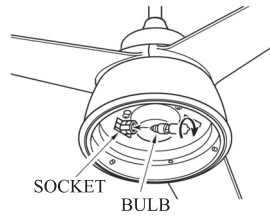

FIG.18
4. Plug the bulb into the socket. (see Fig.18)